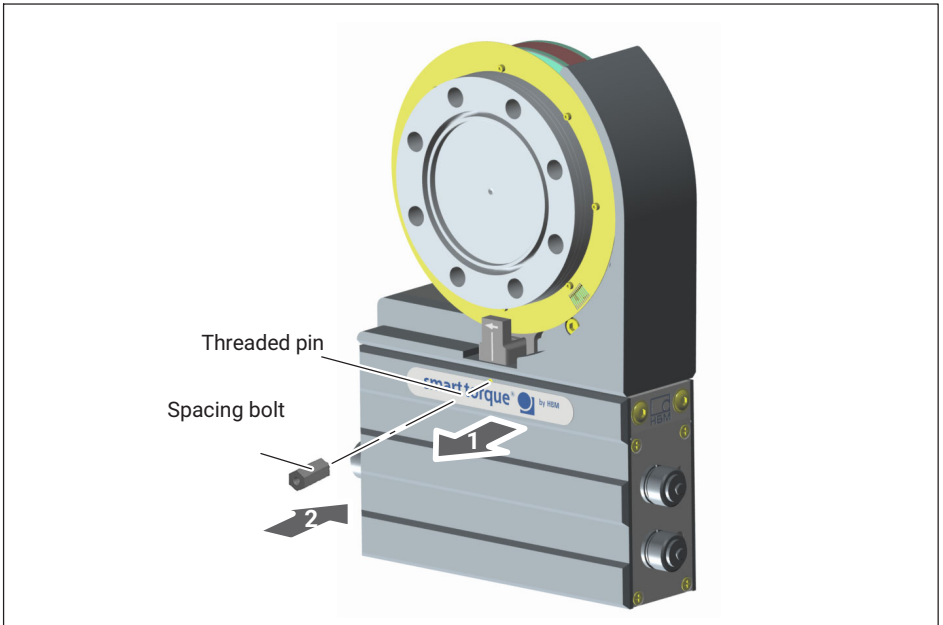

Fig. 8.6 Fitting the spacing bolt (for $5 \text{ kN} \cdot \text{m}$ and $10 \text{ kN} \cdot \text{m}$ only)
3. For $5 \text{ kN} \cdot \text{m}$ and $10 \text{ kN} \cdot \text{m}$ measurement ranges only: remove the threaded pins from the tapped holes on both sides of the stator. Screw the spacing bolt into the tapped hole on the side of the speed sensor (see Fig. 8.6).